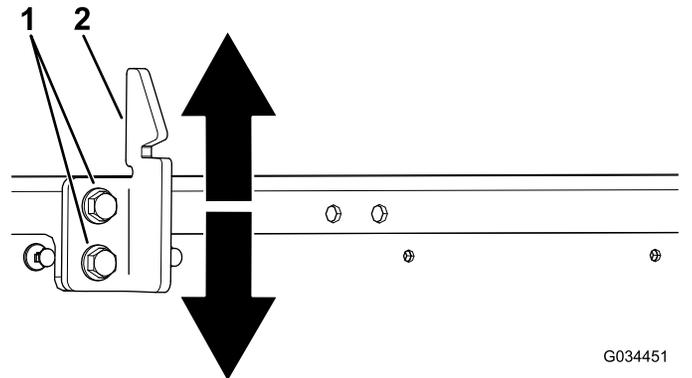

Figure 67
3. Loosen the 2 bolts on the bed-latch striker and move the striker up or down, depending on if the striker is too high or too low (Figure 67).
4. Tighten the 2 bolts on the bed-latch striker (Figure 67).